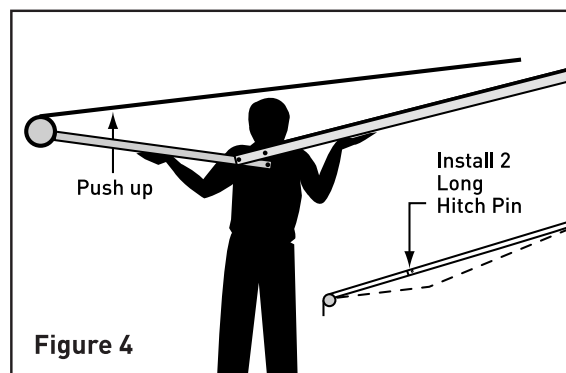

Figure 4
Step 10. While holding the outer brace against the mounting bracket, insert the pin on the gas spring assembly completely into the hole in the roller bar. Using two hands to hold the Center Brace as shown in figure 4, push up on the Center Brace until the inner brace is completely inside the outer brace. Insert a long hitch pin through the hole in the outer brace to secure.